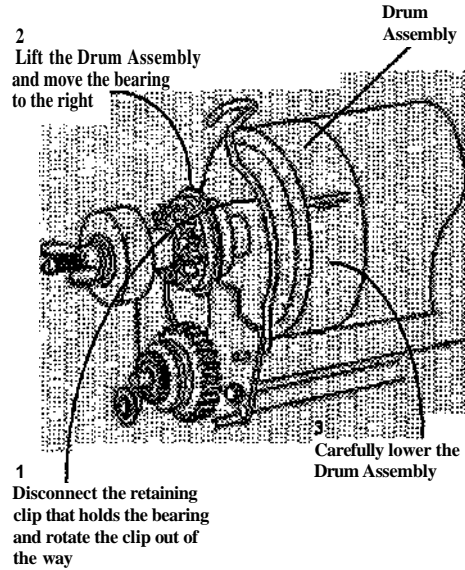

Figure 4. Moving the Bearing (Left Side)
9. (Figure 4); Move the bearing out of the Xerographic Module Frame (Left Side).